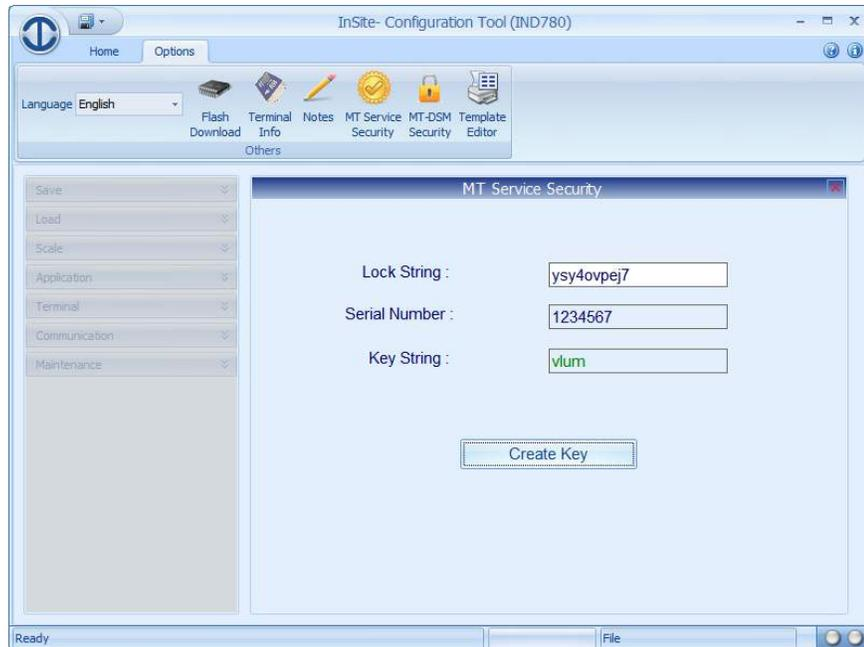

Figure 3-192: InSite Create Key String Screen
8. Referencing the Lock String, use an authorized version of InSite to create the matching Key String. In Figure 3-192, once the Lock String has been entered clicking the Create Key button will generate a Key String.